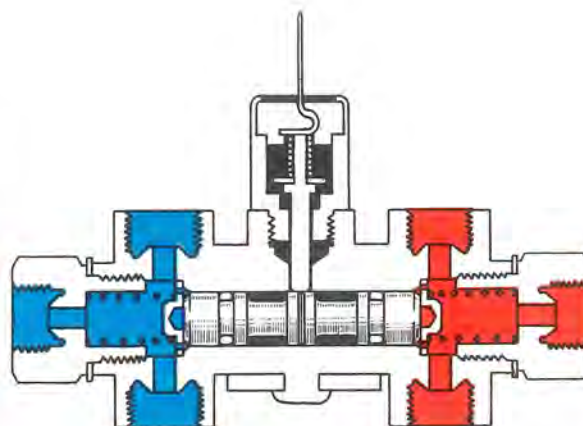

Fig. 5-39. Normal position
If there is no fault in the circuits and the brakes are applied, the hydraulic pressure on the pistons is largely the same on both sides (Fig. 5-39). But should, for example, the pressure in the secondary circuit be somewhat higher than in the primary circuit, this will try to displace the pistons to the right in the figure. This lifts the thrust washer (11) and the pressure of the spring (9) counteracts the displacement.